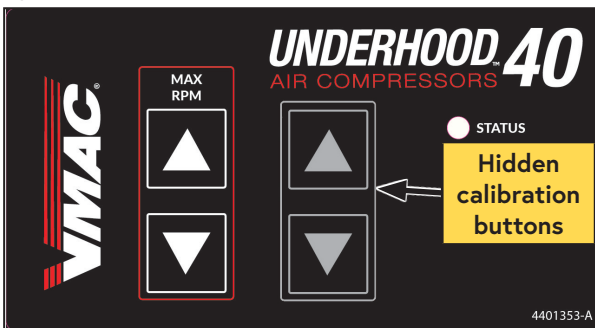

Figure 46 — DTC calibration buttons
- Press and hold the 2 hidden calibration buttons for several seconds until all of the LEDs turn on (this indicates the DTC is in "Idle Adjust Mode" and ready to calibrate) (Figure 46).